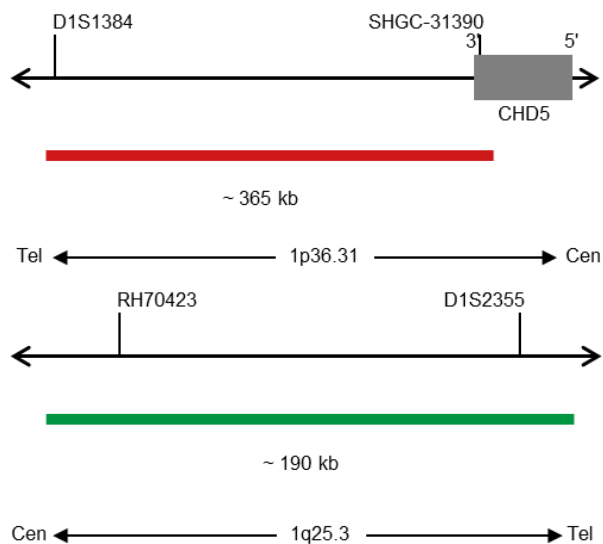

Fig. 1: Top: SPEC 1p36 Probe map; SPEC 1q25 Probe map (not to scale)
- Dinitrophenyl-labeled polynucleotides (~1.7 ng/μl), which target sequences mapping in 1p36.31* (chr1:5,808,946-6,176,336) (see Fig. 1).
- Digoxigenin-labeled polynucleotides (~1.7 ng/μl), which target sequences mapping in 1q25.3* (chr1:184,562,510-184,752,938) (see Fig. 1).